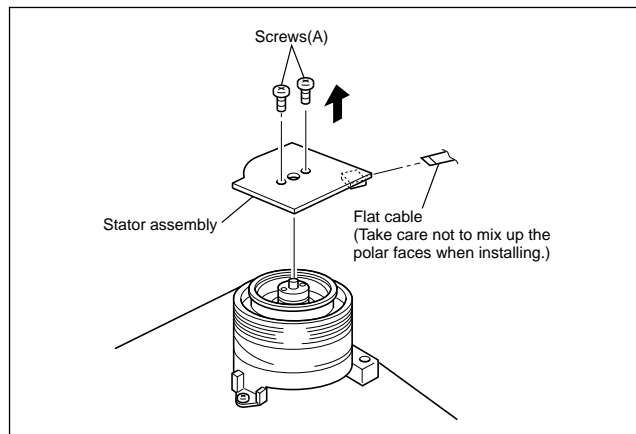
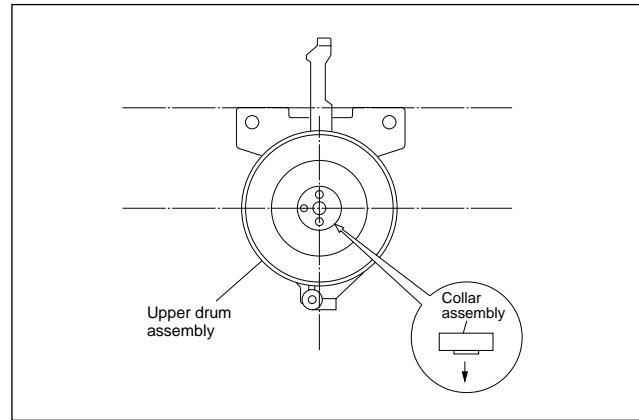

Fig. 2-2-23a
Fig. 2-2-25c
- (3) Install the cap to the upper drum assembly.
- (4) Position the collar assembly as indicated in Fig.2-2-25c while controlling its up- down movement.
- (5) Secure the collar assembly in position with a hexagonal wrench while pressing its top with the fingers.
- (6) After installation, gently turn the upper drum assembly with your hand to make sure that it turns normally. Then install the brush and the spring.
- (7) Install the rotor assembly and stator assembly according to Fig 2-2-23a and 2-2-24a.
- (8) When installation is complete, clean the upper drum assembly and lower drum assembly and carry out the following adjustments.